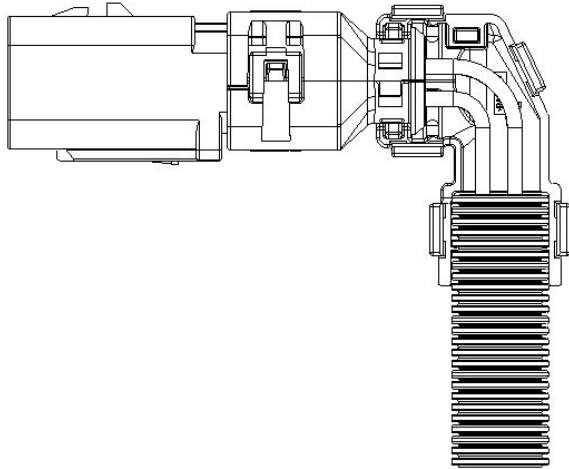

Figure 17
3. Insert the assembled backshell into the elbow so that the rim of the backshell lies within the open retention slot of the elbow. Ensure that the wires follow the curve of the elbow and exit through the wire exit of the elbow. For conduit applications, the end of the conduit should be placed at or near the conduit flange, with the conduit retention rib recessed within one of the wells of the conduit. Refer to Figure 17.